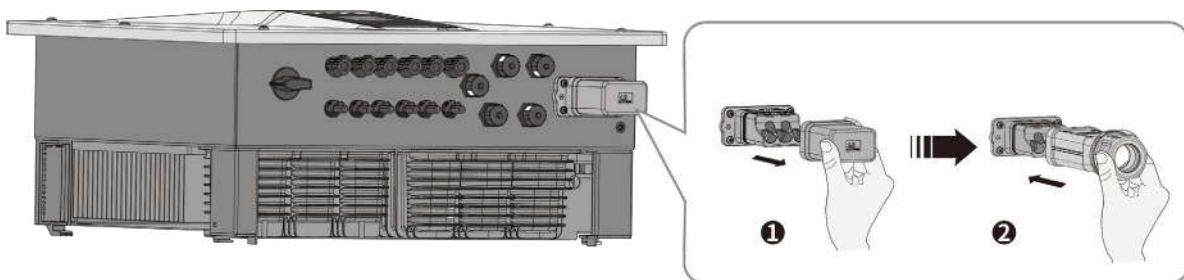

Fig. 14. Remove the plastic AC cover
1. Remove the plastic AC cover from the inverter. (see Fig. 14)